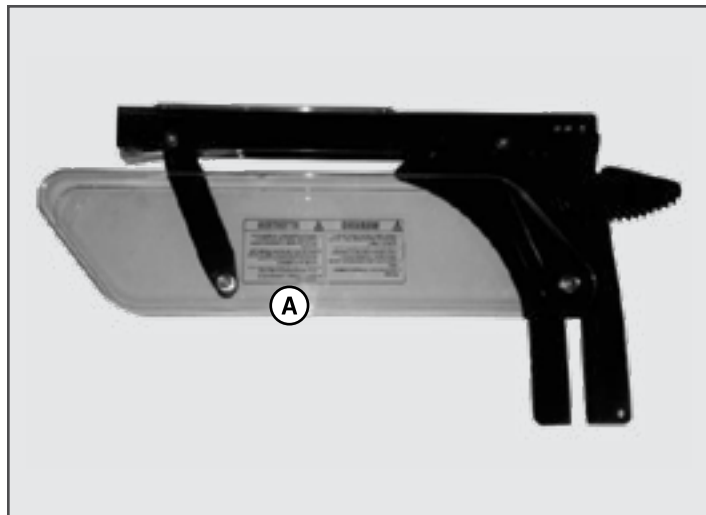

FIGURE 6: BLADE GUARD/RIVING KNIFE ASSEMBLY
- See Figures 6 and 7.
1. Install four 1/4" x 1-1/2" flat head screws (A) into the predrilled holes on the front of the saw. See Figures 6 and 7.
2. On the inside of the table, thread one 1/4" flat washer (3), lock washer (4) and hex nut (5) on each flat head screw.